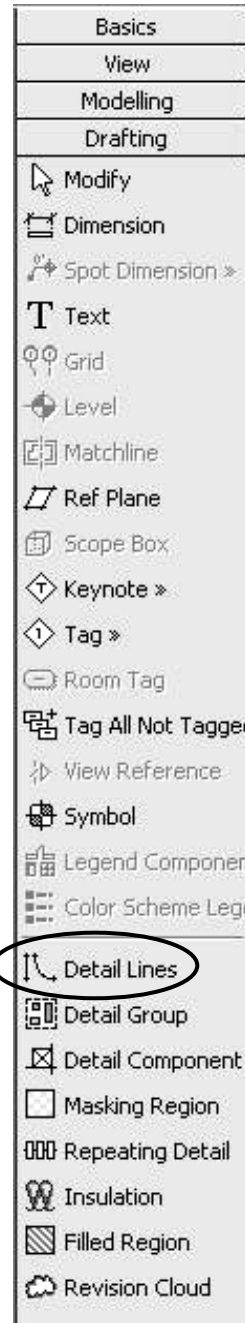

Figure 3-1.5 Drafting tab
9. On the *Drafting* tab, select **Detail Lines** (Figure 3-1.5).